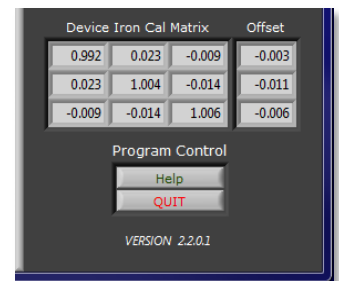

Figure 3: Calibration Coefficients
6. The soft iron calibration coefficients are displayed in the Device Iron Cal Matrix textboxes, the hard iron calibration coefficients are displayed in the Offset textboxes, as shown in Figure 3.